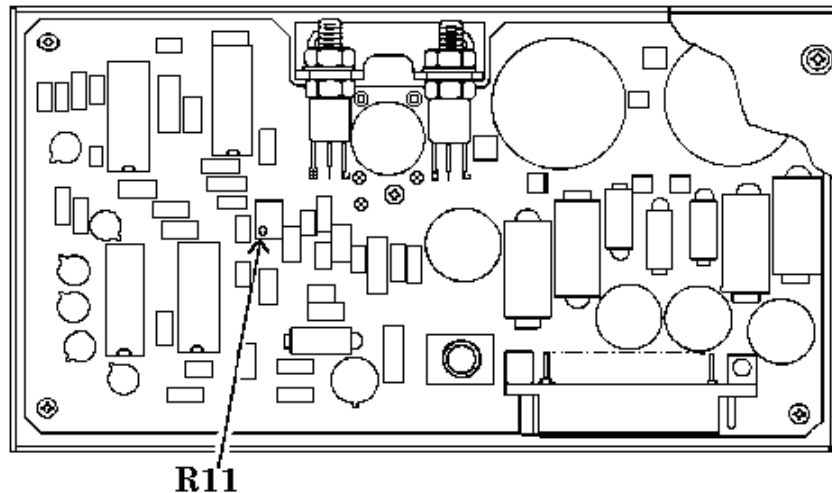

Figure 14. Power supply adjustment location.
b. Adjustments. Connect multimeter to control box TJ 11 and adjust R11 (fig. 14) for a multimeter reading between 11.99 and 12.01 V dc (R).